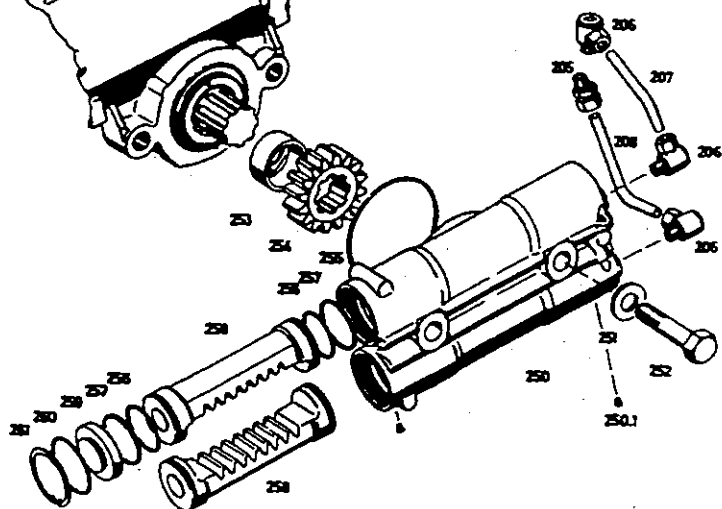

Fig.8
Mark position of valve housing (203). Remove piping (225 and 226) and pipe unions (205 and 206) in the case of versions with add-on cylinder (250) see Fig.8.
Unscrew hexagon screws (252) with washers (251) and remove add-on cylinder (250) (Fig.8).